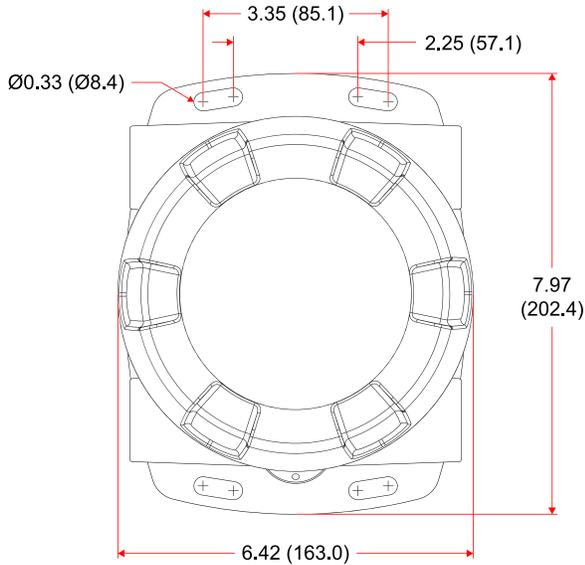
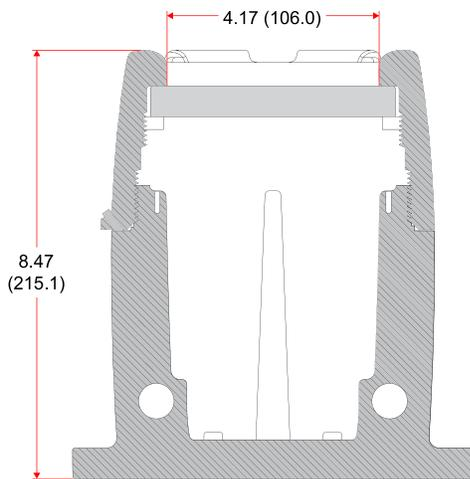

Figure 2. Enclosure Dimensions – Front View
Figure 3. Enclosure Dimensions – Side Cross Section View
The ProtEX-MAX has two slotted mounting flanges that may be used for pipe mounting or wall mounting. Refer to *Figure 2* and *Figure 3* below.
- Prepare a section of wall approximately 7.0" x 8.5" (178 mm x 216 mm) for annunciator mounting by marking with a pencil the mounting holes (shown in *Figure 2*) on the wall.
- Select the appropriate mounting screws for the mounting surface to be used. The mounting holes diameter is shown on *Figure 2*.